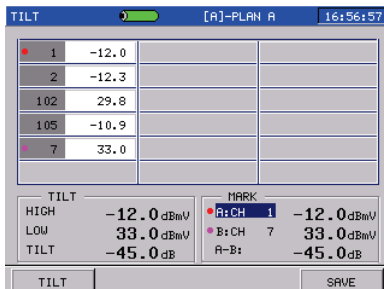

Figure 3-10-6
**LIST(F1):** Press LIST soft key to enter level list mode, as Figure 3-10-6.
Press **F1** to switch the modes between Tilt and level list. In level list mode, you can easily get level value of the channels tested, as Figure 3-10-6.